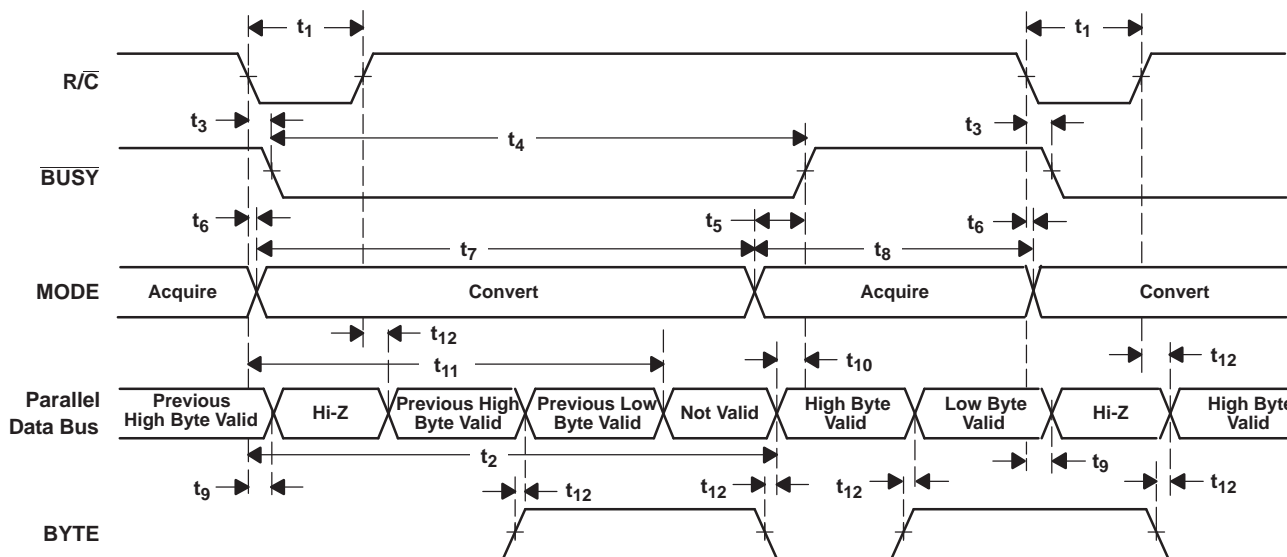
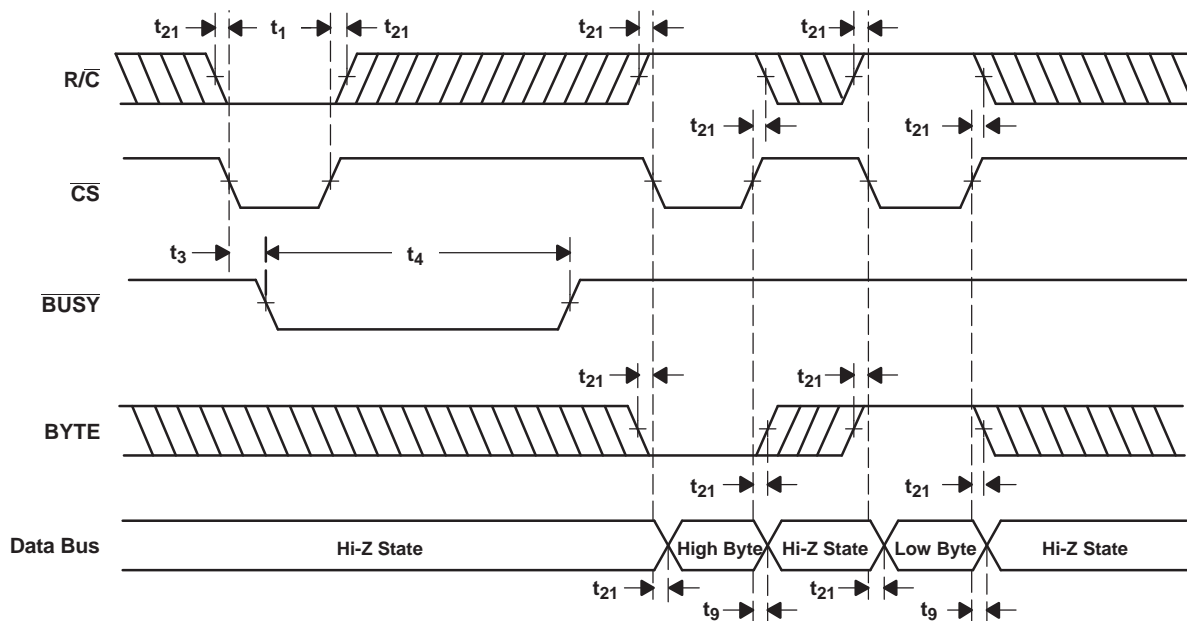

Figure 33. Conversion Timing With Parallel Output ($\overline{\text{CS}}$ and DATACLK Tied Low, $\overline{\text{EXT/INT}}$ Tied High)
Figure 34. \overline{CS} to Control Conversion and Read Timing With Parallel Outputs
The ADS8507 begins tracking the input signal at the end of the conversion. Allowing 25 μs between convert commands assures accurate acquisition of a new signal. Refer to Table 2 and Table 3 for a summary of \overline{CS} , R/\overline{C} , and \overline{BUSY} states, and Figure 33, Figure 34, Figure 35, Figure 36, Figure 37, Figure 38, and Figure 39 for timing diagrams.
(1) See Figure 33 and Figure 34 for constraints on data valid from conversion *N*–1.
After conversion N is completed and the output registers have been updated, $\overline{\text{BUSY}}$ (pin 24) goes high. Valid data from conversion N is available on D7-D0 (pin 9-13 and 15-17). $\overline{\text{BUSY}}$ going high can be used to latch the data. Refer to Table 5 and Figure 33 and Figure 34 for timing specifications.
After conversion N has been initiated, valid data from conversion $N-1$ can be read and is valid up to 12 μs after the start of conversion N . Do not attempt to read data beyond 12 μs after the start of conversion N until \overline{BUSY} (pin 24) goes high; this may result in reading invalid data. Refer to Table 5 and Figure 33 and Figure 34 for timing constraints.